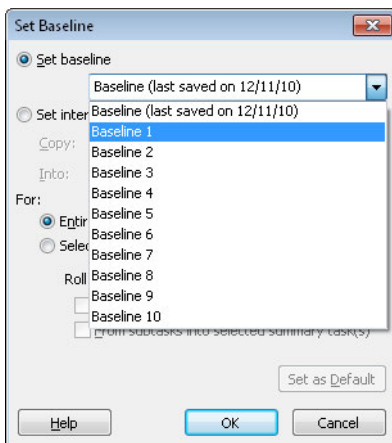

FIGURE 13-8 You can set up to 11 baselines, including Baseline, Baseline1 through Baseline10.
3. In the Set Baseline list, choose the first baseline name *without* a last saved on date, such as Baseline 1 (see Figure 13-8).